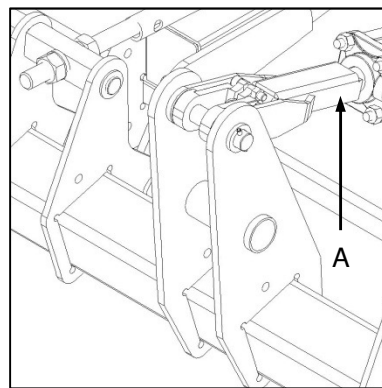

Fig. 2
- ✔ Engage the transport lock (Fig. 2-A).
- ✔ Sluit die vervoerslot (Fig. 2-A).